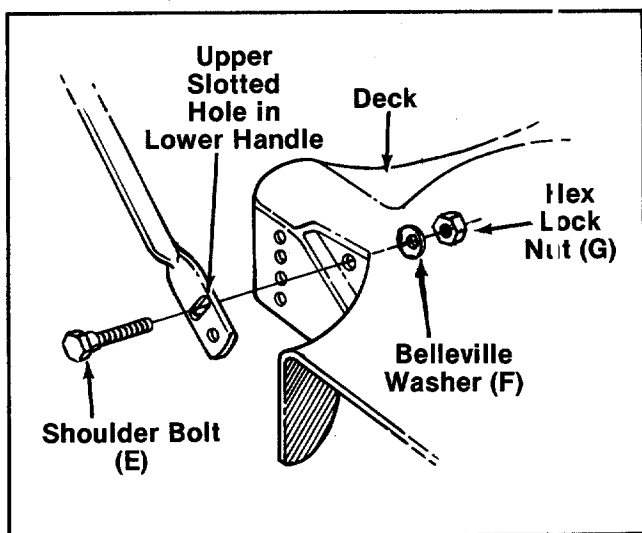

FIGURE 2.
- D (2) Cable Ties
- E (2) Shoulder Bolts 5/16-18 Thread
- F (2) Belleville Washers 5/16" I.D.
- G (2) Hex Lock Nuts 5/16-18 Thread
- H (1) Rope Guide Bolt
- I (1) Curved Head Carriage Bolt
- J (2) Lock Washers 5/16" I.D.
- K (2) Hex Nuts 5/16-18 Thread
3. Line up the upper slotted hole in the lower handle with the mounting hole on deck. Place shoulder bolt (E) through lower handle and deck. Place belleville washer (F) on the shoulder bolt, with the cupped side of the washer against the deck. Secure with hex lock nut (G). See figure 2.